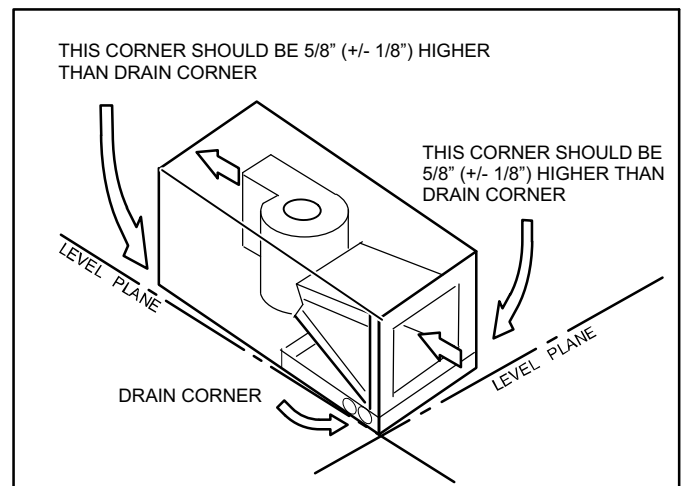

Figure 11. Sloping the Unit for Proper Drainage
3. Set unit so that it is sloped toward the drain pan end of the unit (see figure 11).
Make sure the unit is sloped (similar to the slope shown in figure 11) (horizontal or upflow) so that the drain pan will empty completely without water standing in the pan.